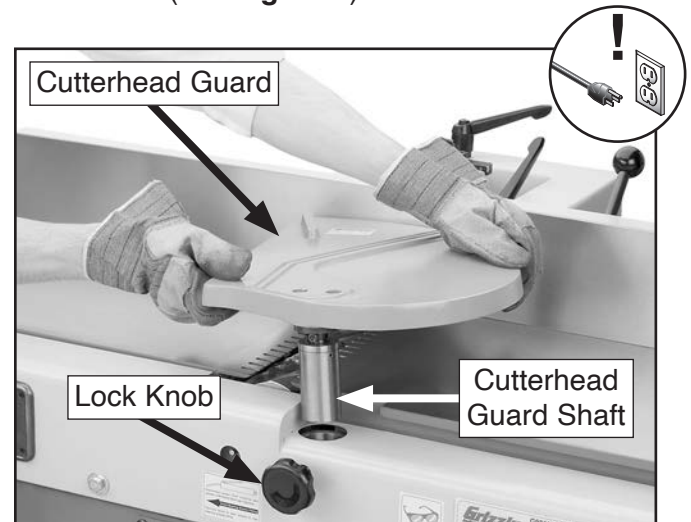

Figure 4. Adjusting cutterhead guard.
4. Loosen lock knob securing cutterhead guard shaft (see **Figure 4**).
5. Lift cutterhead guard so shaft clears hole, rotate guard clockwise towards fence, then re-install guard and tighten lock knob to secure (see **Figure 4**).